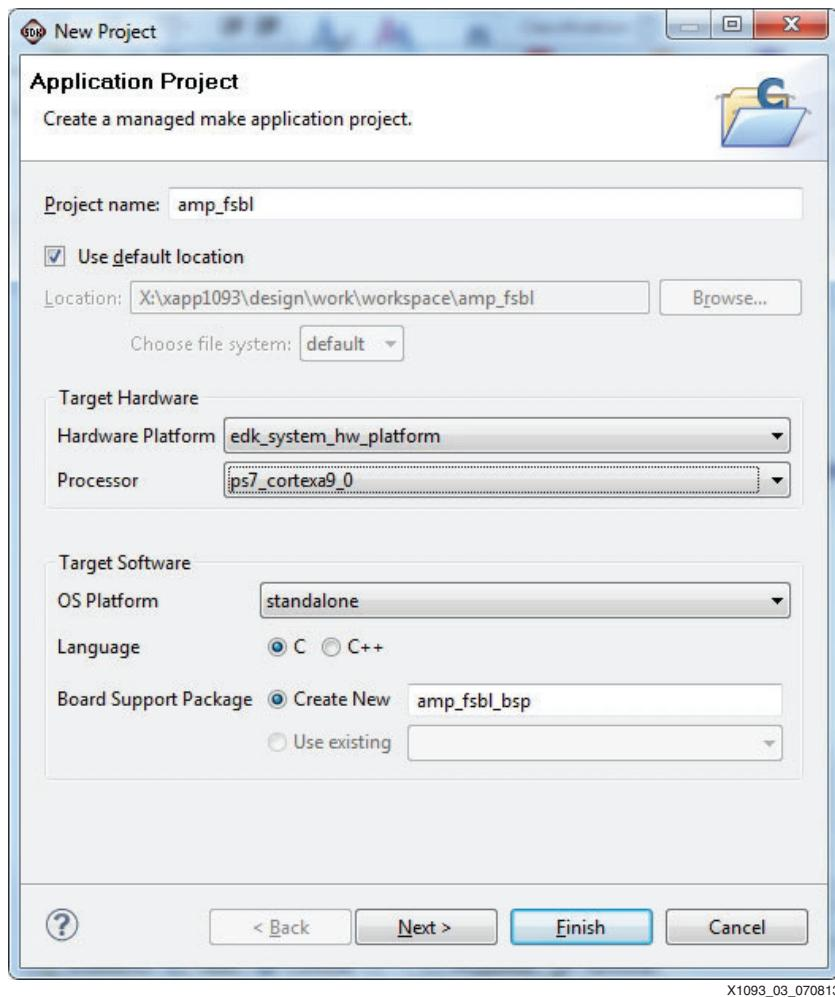

Figure 3: Create FSBL
2. In the Project Name field enter **amp_fsbl** and change the Processor field to **ps7_cortexa9_0**, as shown in Figure 3.